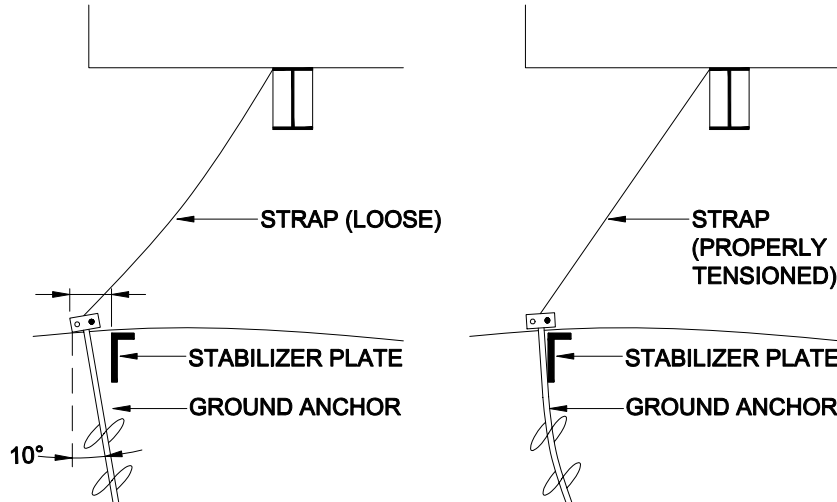

Figure 57. Determining anchor and stabilizer plate location
Stabilizer plate configurations (**Figure 57**) are suitable for homes in all wind zones. Anchors may be installed after the home is set. A stabilizer device, typically an ABS or metal plate, is used to prevent the top of the anchor from slicing through the soil when the load is applied. Stabilizer plates are available in a variety of widths. Choose the widest plate that can be driven into the soil to maximize resistance to movement. The LAHJ may have stabilizer plate requirements.
1. **Measure.** To determine the stabilizer plate location, measure from the top of the I-beam to the ground directly under it and then use the same measurement directly away from that point under the beam (**Figure 57**). The anchor and plate must be under the home, but within six inches of the exterior wall for a near beam set and ten inches minimum from the exterior wall for a far beam set. Be careful not to place in a location that will interfere with skirting.